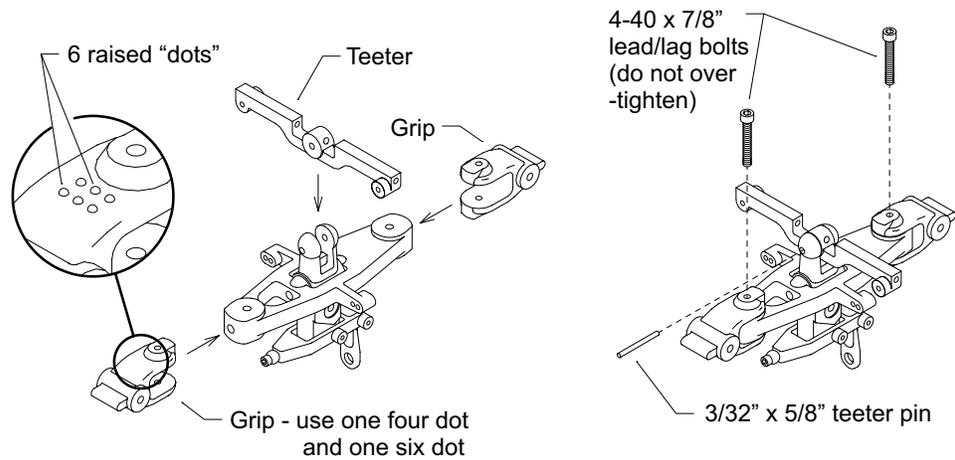

**Figure 7-1.**
- 1. Attach a metal universal ball to the follower arm using a 2-56 x 1/2" bolt as shown in Fig. 7-1. Tighten the bolt only until the universal ball is held in place (tightening any further may strip the plastic threads). Attach the follower link to the follower arm with a 1/16" x 3/4" pin. Orient the follower arm and the hub as shown and connect with another 1/16" x 3/4" pin. The pins should extend completely through the plastic parts and equally out of each side. The follower arm and link should move freely.